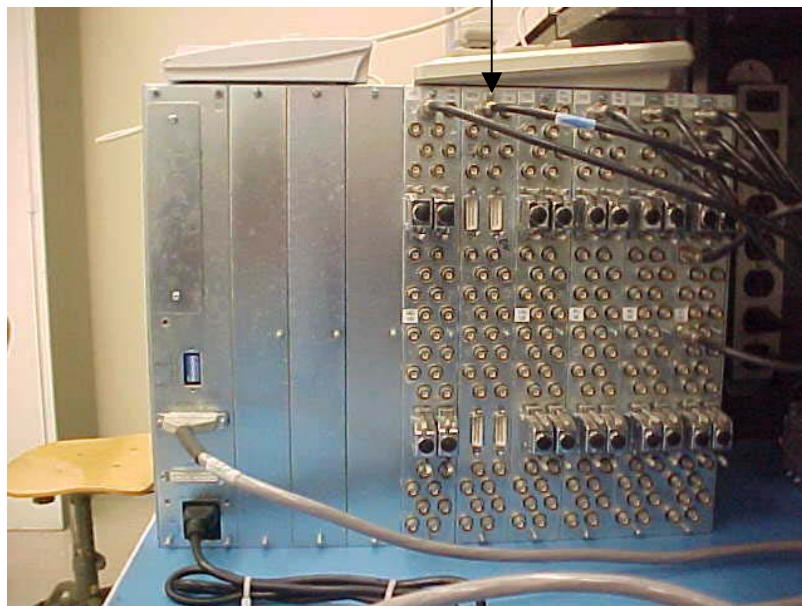

Figure 1
2. Disconnect any coaxial cables attached to the Monitor output BNC rear panel (V6610RP-B). See Figure 1.